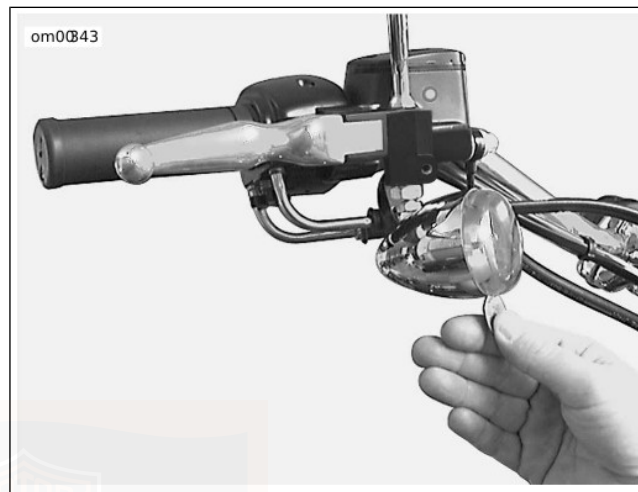

Figure 70. Lens Cap Notch
1. See Figure 70. To access the front or rear turn signal bulbs for replacement, locate a notch on the turn signal lens cap.